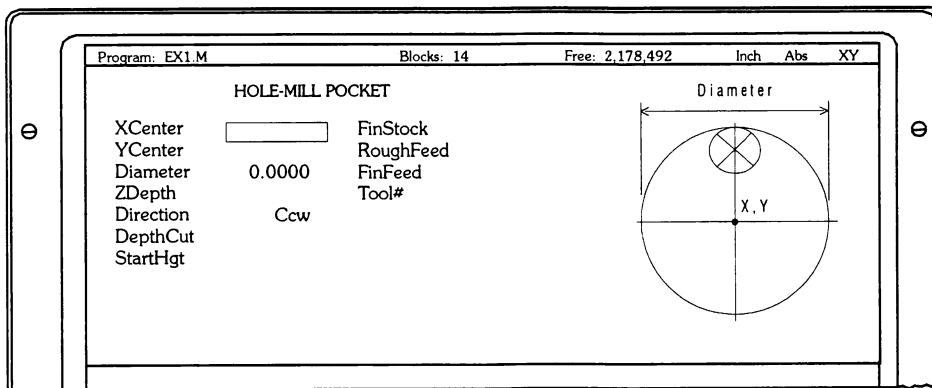

Figure 2, Hole - Mill Pocket Screen Diagram
2. Move highlight to mark **Hole** and press (ENTER), , (display prompts for labeled values as follows, see *Figure 2, Hole - Mill Pocket Screen Diagram*).